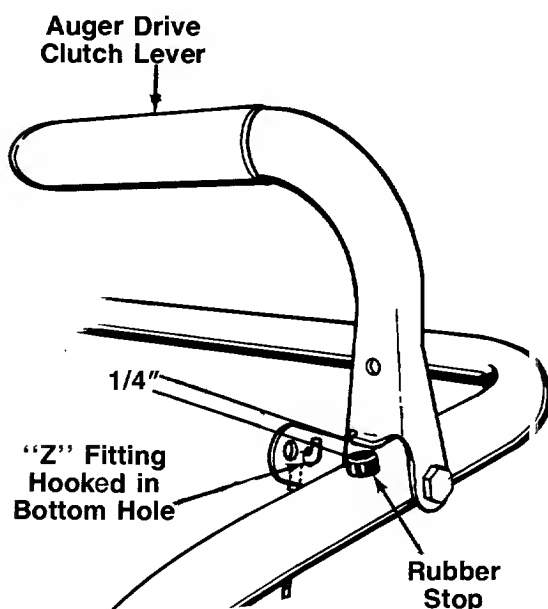

FIGURE 14.
1. Hook the "Z" fitting on the end of the auger cable into the bottom hole in the auger drive clutch lever (left hand side of handle). Hook the fitting from the inside to the outside as shown in figure 14.
2. Raise the clutch lever so it is approximately $\frac{1}{4}$ " away from the rubber stop on the handle, as shown in figure 14. With the clutch lever in this position, thread the ferrule onto the end of the auger cable until it lines up with the hole in the auger bracket.